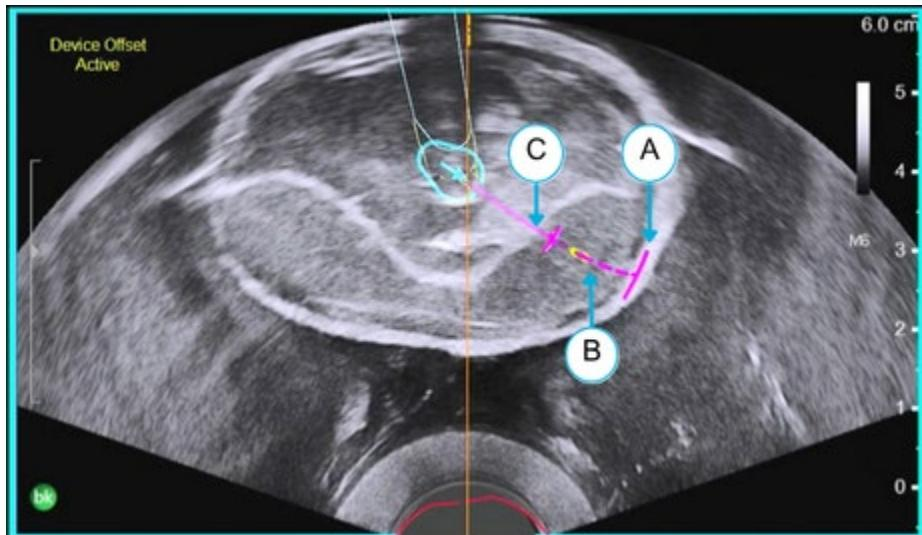

Figure 12-13: Projected Needle Path and Initial Deployment Length
■ **NOTE:** In the Axial Ultrasound view, the Needle Guidance System provides information as to the range of potential Needle pathways if the Needle were deployed at a chosen angle. This range is represented as a magenta-colored arch (**A**) at the maximum deployment length. A dotted line (**B**) depicts the most likely Needle path with a solid section (**C**) depicting the initial deployment length (Figure 12-13).